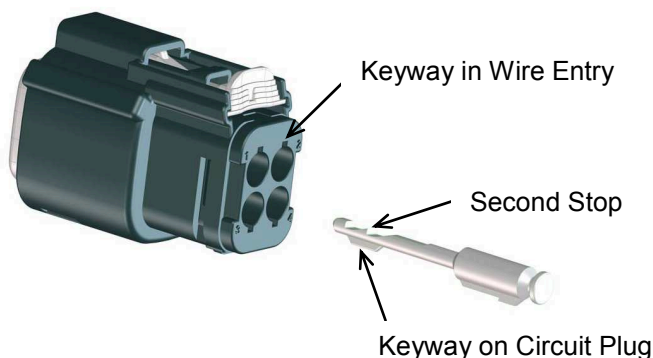
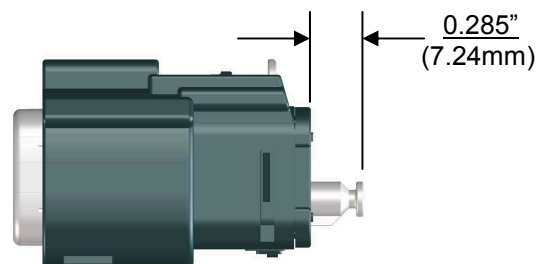

Figure 9: Circuit Plug Orientation
Figure 10: Circuit Plug in Final Position
- In its final position, the dimension between the receptacle housing and the circuit plug is approximately 0.285" (7,24mm) (See Figure 9 & Figure 10).